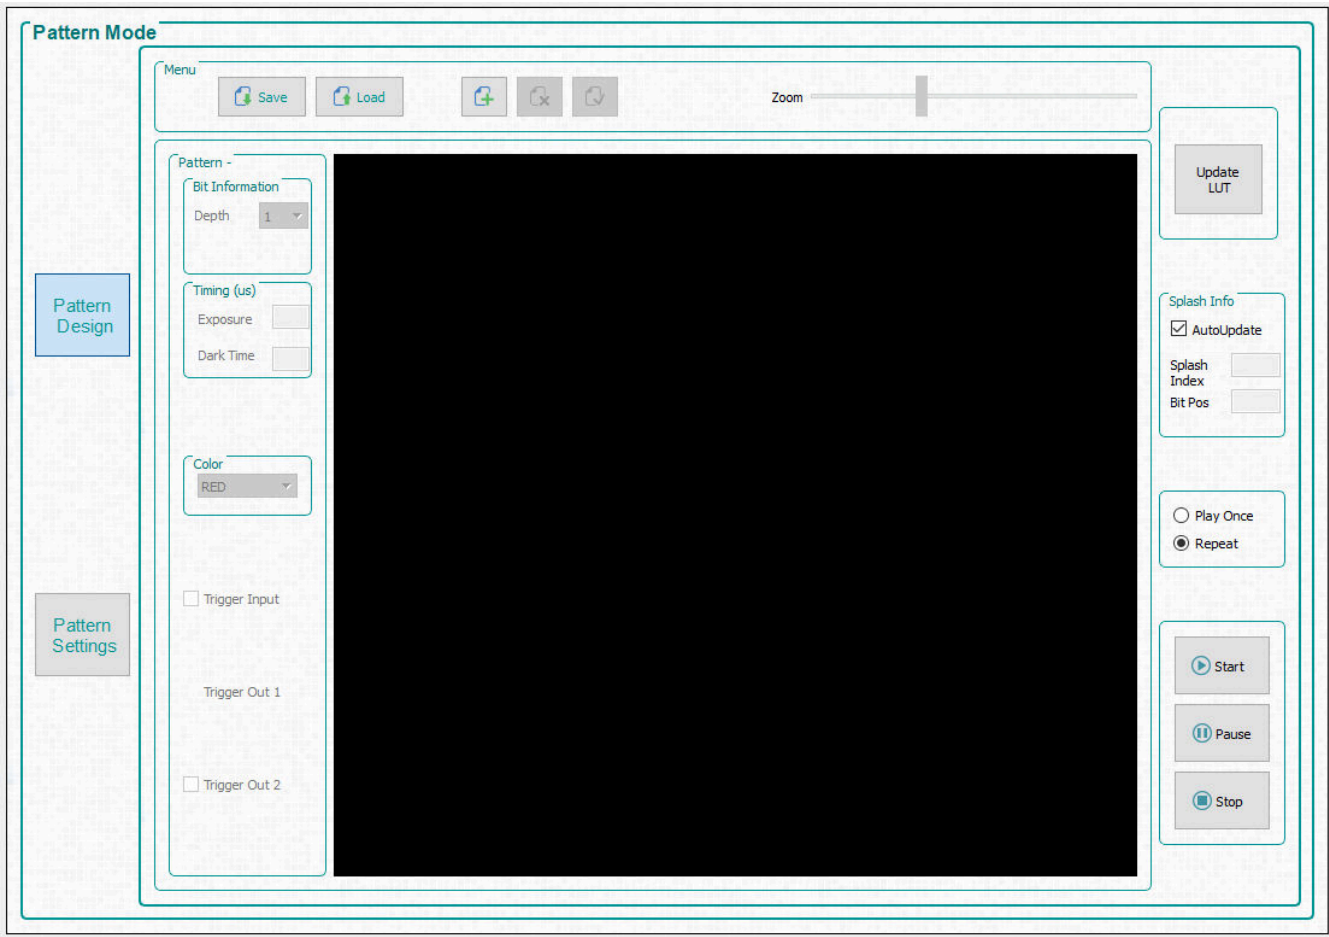

Figure 3-1. Pattern Mode Panel
1. Select *Pattern On-The-Fly Mode* from the *Operating Mode* group box, and click the *Pattern Design* button so that the panel is displayed as shown in Figure 3-1.